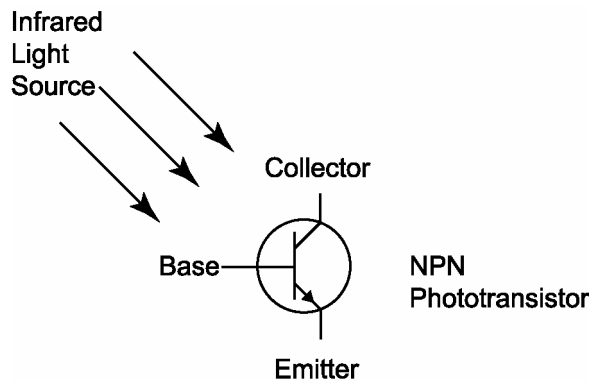

Figure 1: Schematic of an infrared detecting phototransistor.
Photosensors come in a variety of types, but the one thing that they all have in common is that they are used to detect the presence of some wavelength of light. Some are used to detect visible light; some detect ultraviolet light; the photosensors we use in lab, however, detect infrared (IR) light. The photosensors used in this lab are infrared detecting phototransistors as depicted in Figures 1 and 2 below.
Figure 1 shows that, as the base of the phototransistor is exposed to infrared light, it “closes” a switch between the collector and emitter. If a voltage difference is applied across the IR sensor, current is allowed to pass from the collector to the emitter. The amount of current allowed to pass through the sensor is proportional to the amount of infrared light received by the base: more light produces a higher current. Because of this phenomenon, the phototransistor can be viewed as a variable resistor. When there is no infrared light present, the resistance is relatively high. When the IR sensor is saturated with infrared light, the resistance is much lower. This type of sensor is ideal for use with the Handy Board and its analog input ports.